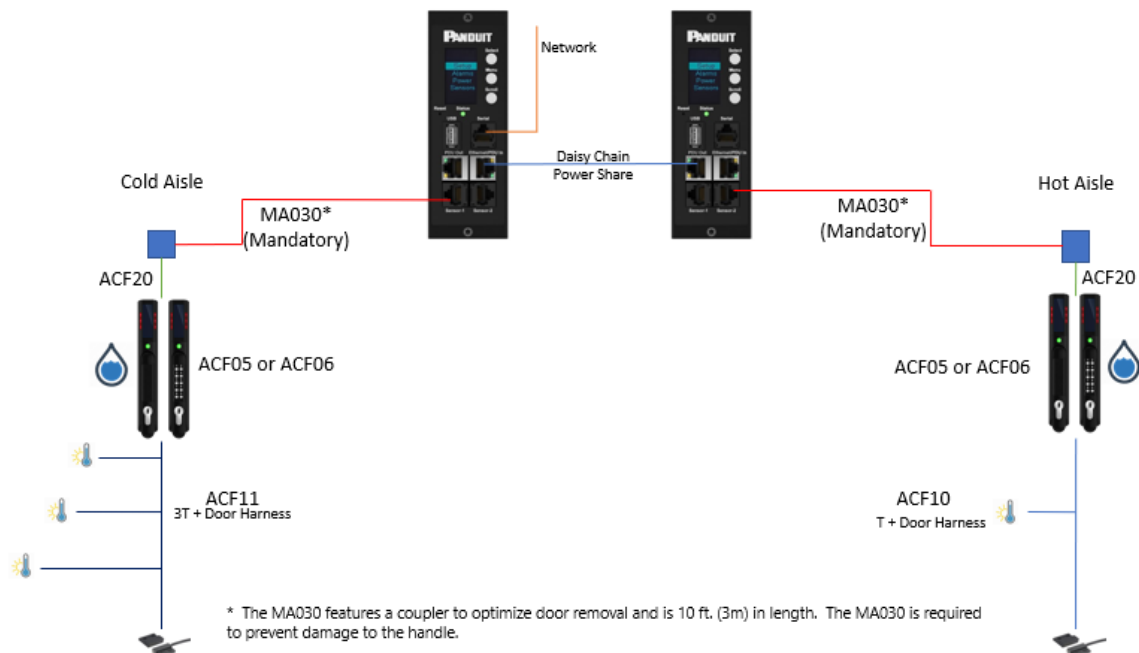

Figure 1: Connection Diagram Panduit Security Handle
2. Figure 1 for standard applications.